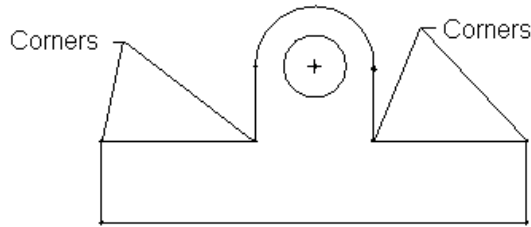

Figure 2-41 Fillet corners
- c. Apply fillets at two corners of the sketch, refer to Figures 2-41 and 2-42.
1. Choose the **Create a circular fillet between two entities** button from the **Sketcher Tools** toolbar. You are prompted to select the two entities to be filleted. The corners that you need to fillet are shown in Figure 2-41.
2. Select the two entities one by one using the left mouse button. The corner of the selected lines are filleted. Fillet all required corners shown in Figure 2-41.